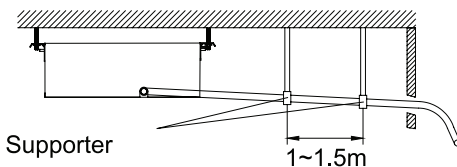

Fig.24
- (3). When the hose is long, install supporters.(Fig.24)
- (4). Always use the drain hose which has been insulated properly.